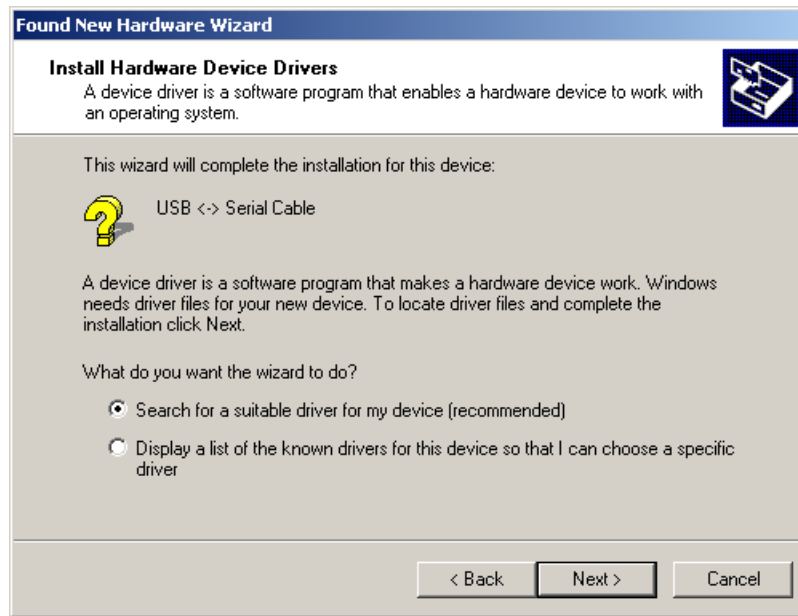

Figure 27. Found New Hardware Wizard Window #2
6. At the next "Found New Hardware Wizard" window (Figure 27), select "Search for a suitable driver for my device (recommended)" as shown below, then click next.